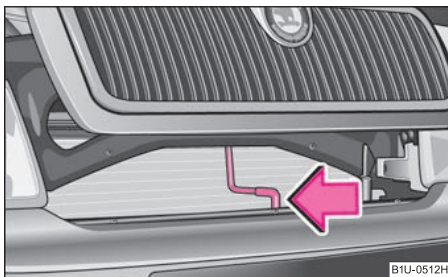

Fig. 15 Radiator grille: Locking lever
- Press the locking lever in direction of arrow ⇒ fig. 15 and lift up the bonnet.